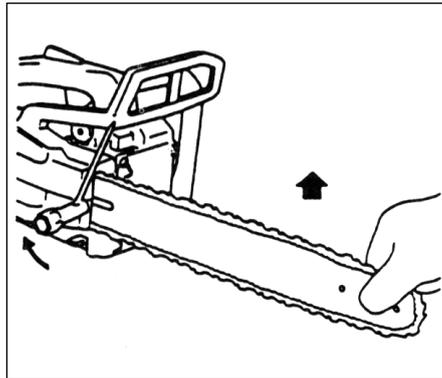

Fig.1-4
7. Raise the bar end, and tighten the chain (1) by turning the tension adjustment bolt (2) clockwise. To check proper tension, lightly lift up the center of chain and there should be about 0.5-1.0mm clearance between bar and edge of drive link (3). (Fig.1-4, 5)
8. Raise the bar end and securely tighten the chain bar clamp nuts with the box wrench. (Fig. 1-4)